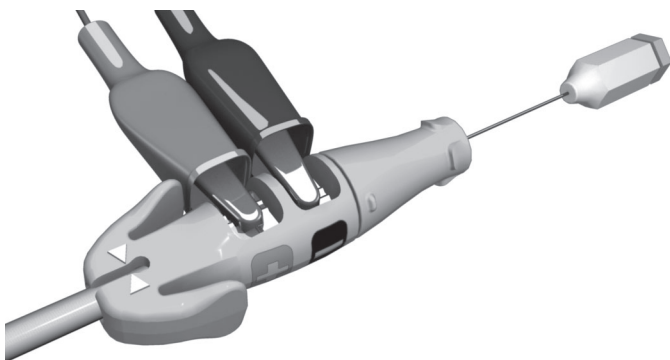

Figure 8. PSA clips attached to Connector Tool
- Attach the PSA cable alligator clips to the Connector Tool cathode (–) spring contact and anode spring contact (+). Use of the Connector Tool will protect the terminal pin from alligator clip damage and prevent bridging between terminal contacts. Fully engage the alligator clips on the cathode and anode spring contacts to avoid inaccurate baseline measurements (Figure 8 PSA clips attached to Connector Tool on page 19).